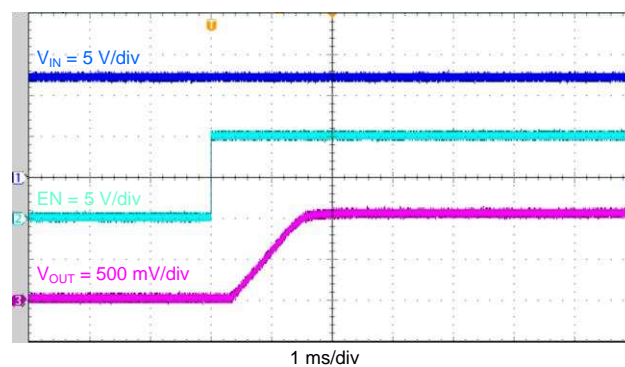

Figure 11. Start-Up Relative to EN
The TPS565201EVM-858 start-up waveform relative to enable (EN) is shown in Figure 11. Load = 1 Ω resistive.